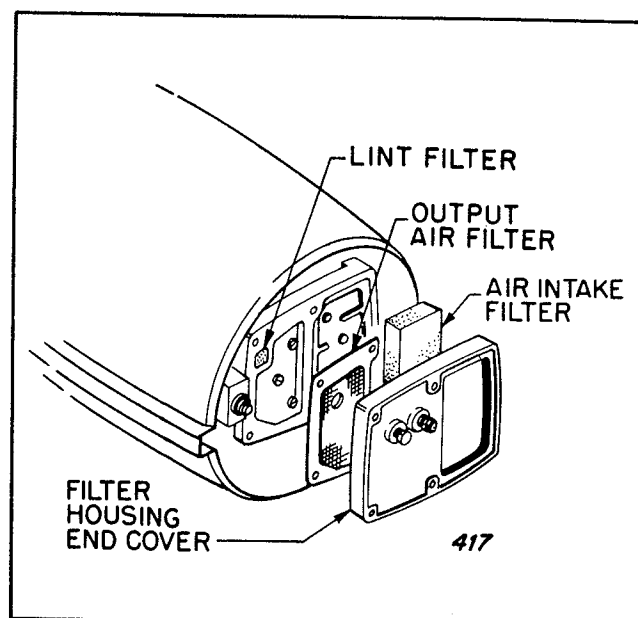

Figure 4. Access to Air Filter for Maintenance
4. To reach the output air filter, remove the four screws which attach the filter housing end cover. Remove the output air filter. See Figure 4.